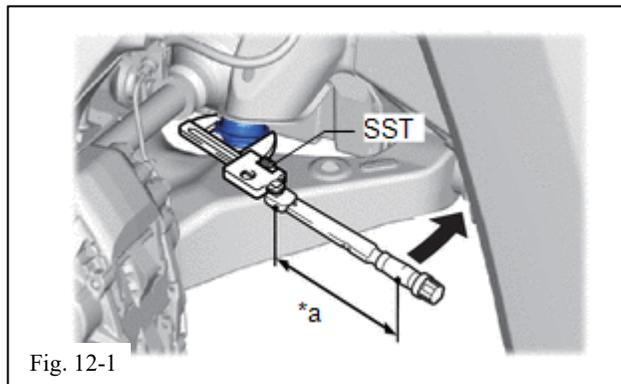

Fig. 12-1
- (b) Using SST, install the trd jounce bumper assembly onto the vehicle (Fig. 12-1).